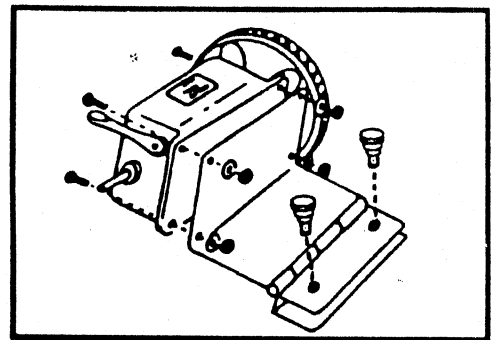

Figure 3
1. Place wheel on shaft and tighten set-screw. Be sure that the wheel is on the opposite side of the reset lever. (Figure 3) Please note which side of the bracket that the wheel should be on.